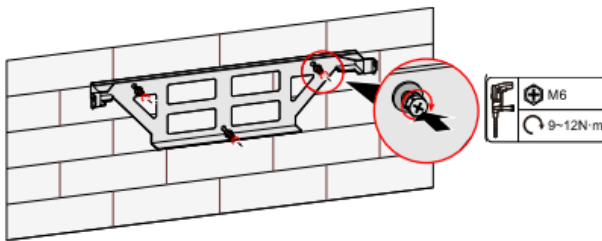

Figure3-21 Fix the wall-mounted bracket
1. Fix the wall-mounted bracket, as shown in Figure3-21.